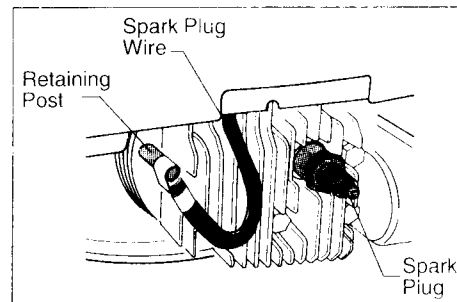

FIGURE 12: Spark Plug/Retaining Post
1. Remove spark plug wire (figure 12).